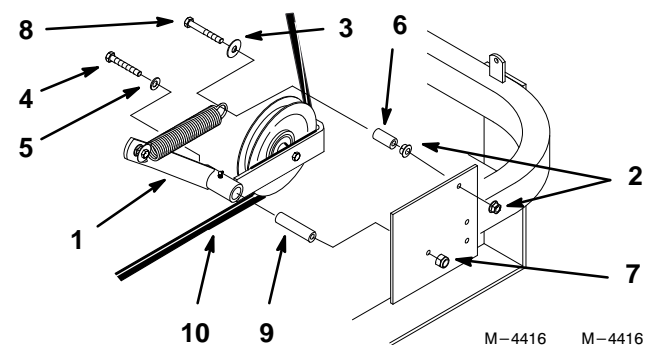

Figure 8
1. Remove the spring from the old idler arm (Old idler arm not shown) (Fig. 8).
2. Remove the old idler arm from the machine frame. Save parts for installing new idler arm (Old idler arm not shown) (Fig. 8).
3. Remove the spring and hardware from the machine frame. Discard old washer (Fig. 8).
3. Install new rear idler arm to machine frame. Use existing hardware to attach it (Fig. 8).
4. Install spring to machine frame. Use existing hardware and new flat washer included in kit. (Fig. 8).
Note: New flat washer must be installed between spring and head of bolt. The spring must be installed between new flat washer and spacer (Fig. 8).